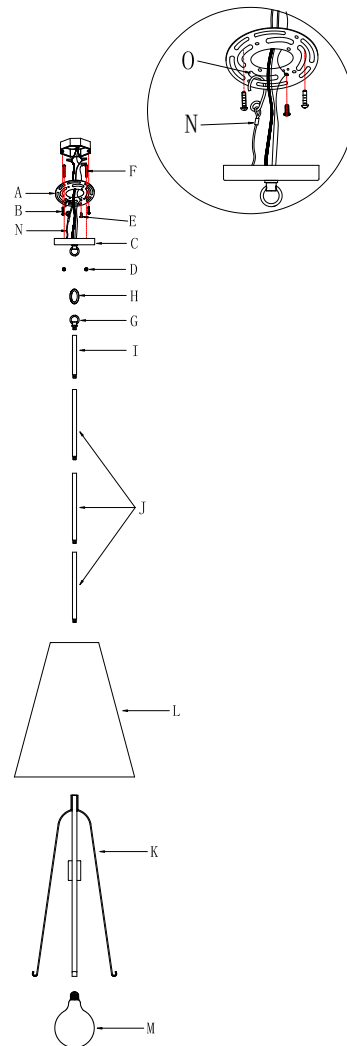

Fig. 2
CONNECTING THE WIRES (Fig. 2)
9. Connect electrical wires as shown in Fig.2, making sure that all wire connectors are secured. If your junction box has a ground wire (green or bare copper), connect fixture's ground wire to it. Otherwise, connect ground wire directly to mounting plate (A) using green screw provided.